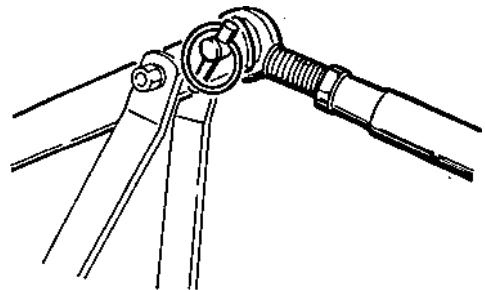

Fig. 17
- 3 Install the other end of the hitch top link to the tiller and secure with clip as shown Fig. 17.
Increasing the length of the top link will cause the rear of the tiller to drop, shortening the link will cause the rear of the tiller to raise. Tighten the locking nut on the top link securely Fig. 17.